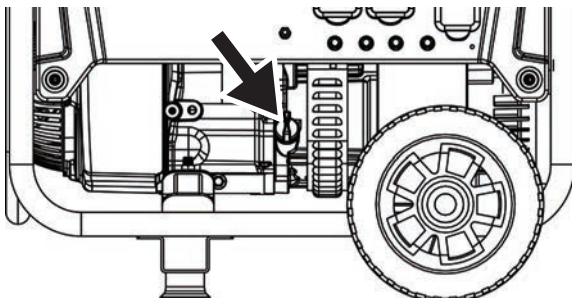

Figure 18 - Oil Fill Plug/Dipstick
5. Remove oil fill plug/dipstick (see Figure 18 below).